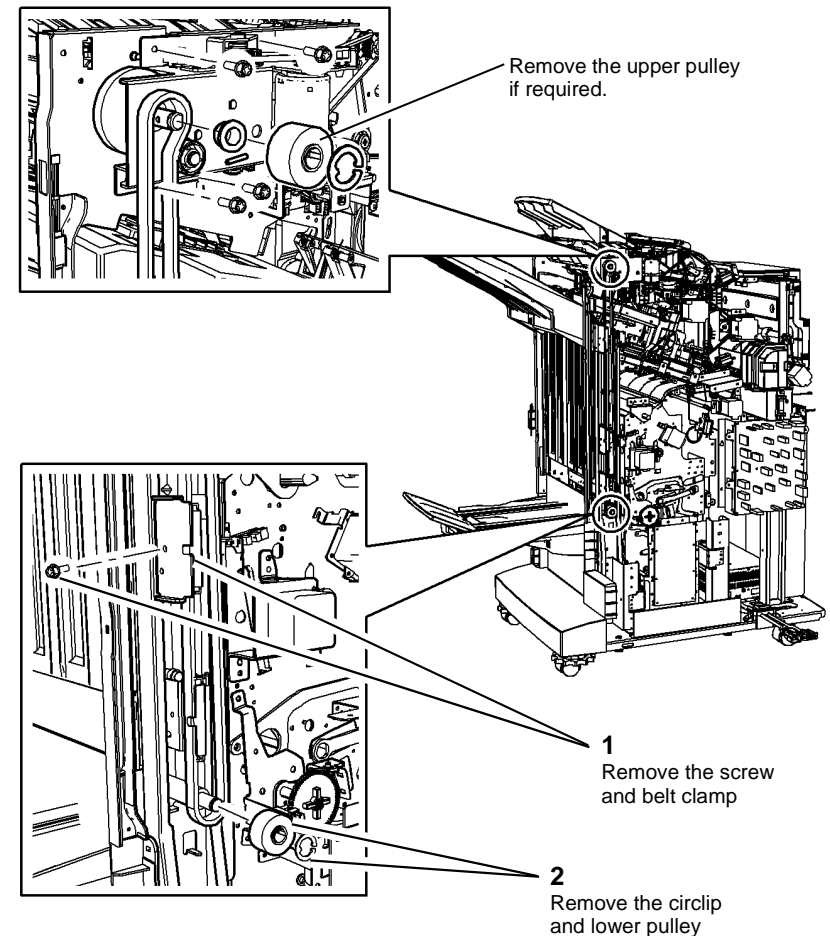

Figure 1 Main drive belt removal
3. Remove the driving belt from the upper pulley and idler, Figure 1.